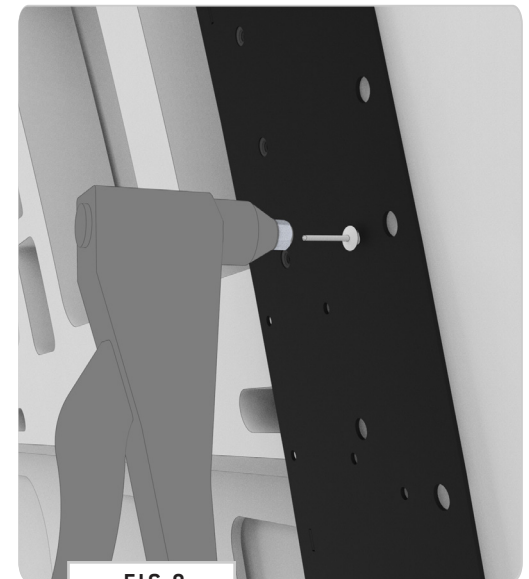

FIG 9
4.3 Install Rivets: After the paint has dried, install the **Rivets** (**FIG 9**).